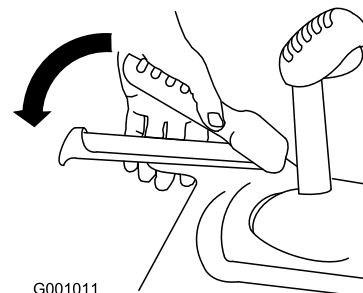

Figure 9
3. Squeeze the left (traction) lever to the handgrip (Figure 9).
- 6. Squeeze the left (traction) lever to the handgrip (Figure 9).